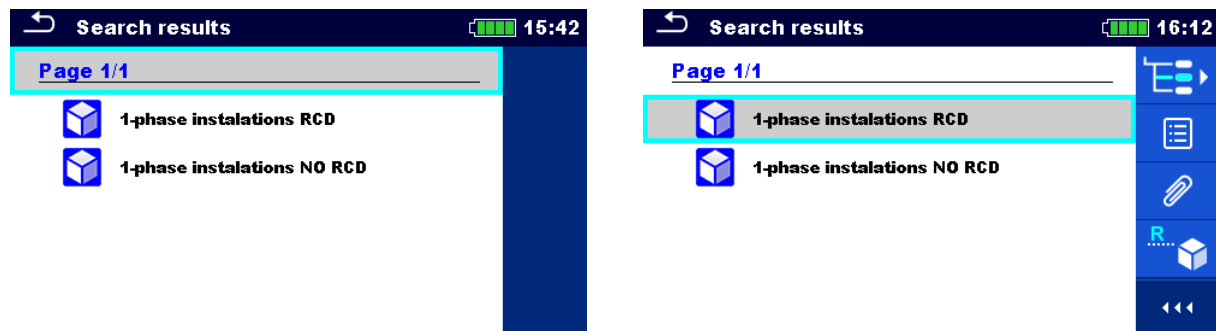

Figure 5.7: Search results screen (left), structure object selected (right)
③	Clears filters.
④	Searches through the Memory Organizer for objects according to the set filter. The results are shown in the Search results screen presented on Figure 5.7 .